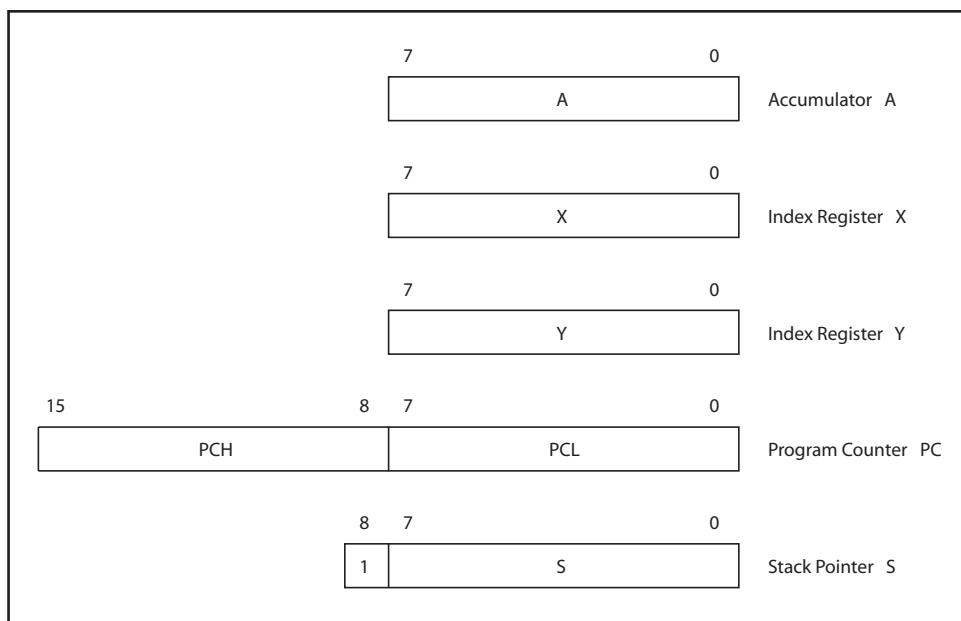

Figure 7.11 6502 Registers
Registers, discussed in Chapter 5, are a fundamental part of the microprocessor. Each data register in the 6502 has a capacity of eight bits, and can therefore store an entire byte of data. The Program Counter (PC) can hold 16 bits. Registers allow the processor easy access to the data it needs to operate. Figure 7.11 shows the five registers most important to us.